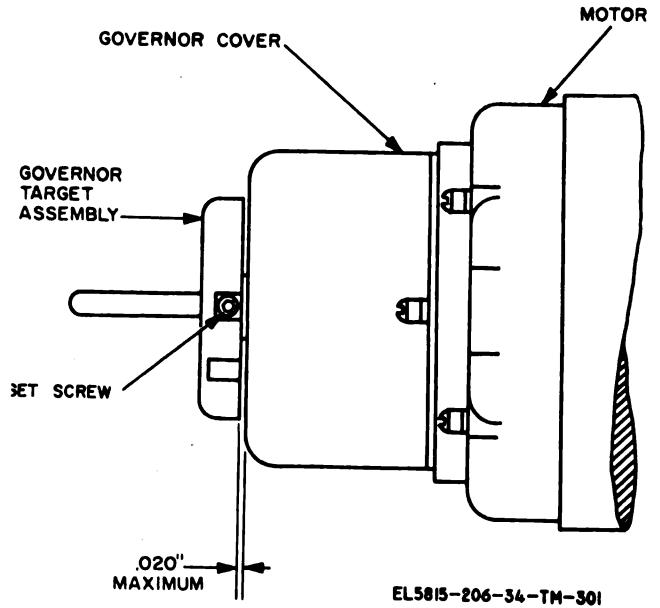

Figure 3-229. Governor target adjustment (TT-4 (\*)/TG and TT-698 (\*)/TG ).
**3-266. Governor Target Adjustment (TT-4(\*)/ TG and TT-698(\*)/ TG) (fig. 3-229)**